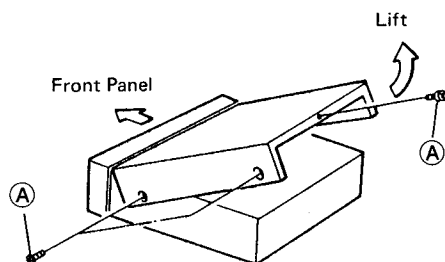

Figure 1
1. Removal of Cover (Figure 1)
Remove screws (A), then lift and remove the cabinet as shown in Figure 1.